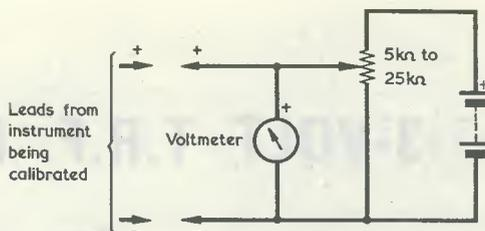

Fig. 4. The external components required for calibration.
N.B. Additional components to those listed here (see text and Fig. 4) are required for calibration.
In order to calibrate the instrument it is necessary to have available a separate voltmeter, a new, separate, 9 volt battery, a new 1.5 volt cell, and a potentiometer of anything from  $5k\Omega$  to  $25k\Omega$ . These components are connected up as shown in Fig. 4. Starting with the 9 volt range, and using the separate 9 volt battery in the battery position shown in Fig. 4, the external potentiometer is adjusted to cause 0.5 volts to be indicated by the meter in Fig. 4. The instrument being calibrated has  $S_2$  switched on and  $S_1$  set to the 9 volt range, after which  $VR_2$  is adjusted to give a zero reading in  $M_1$ . A pencil mark is then made on the appropriate paper scale on the disc, or on whatever other type of scale is employed. The process is repeated in steps of 0.5 volts up to 9 volts. Intermediate marks of 0.1 volt spacing can be made later by eye. The 1.5 volt cell is then substituted in Fig. 4 and the potentiometer of Fig. 4 adjusted to give a reading of exactly 1.5 volts.  $S_1$  in Fig. 2 is switched to the 1.5 volt range and  $VR_3$  is then adjusted so that  $M_1$  gives a zero reading with  $VR_1$  at maximum. Calibration in steps of 0.1